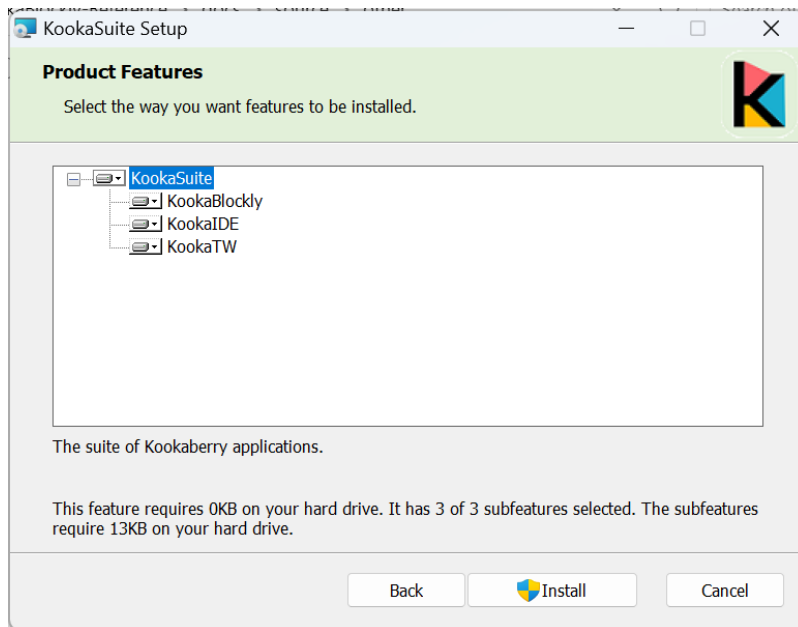

Fig. 1.8: Press **Install** to proceed with the **KookaSuite** installation.
6. A dialogue then appears, shown in Fig. 1.8, that provides the opportunity to select which elements if not all of **KookaSuite** are to be installed. It is recommended that all elements be installed for a fully functional **KookaSuite**.